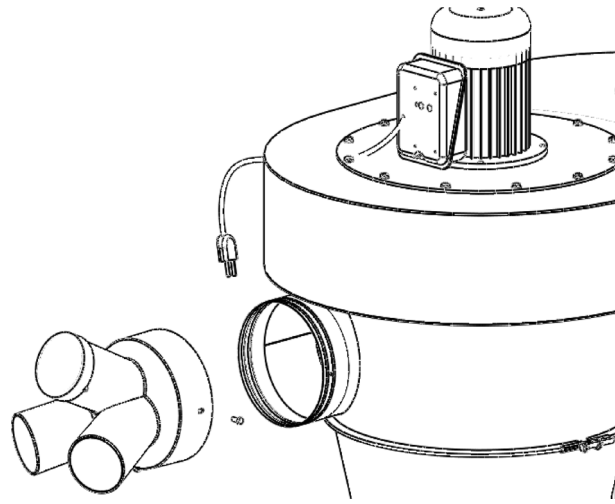

FIG. 4.17
16. Install the inlet adapter on the dust port and secure with (1) Phillips head screw 3/16 x 3/8. (Fig. 4.17)